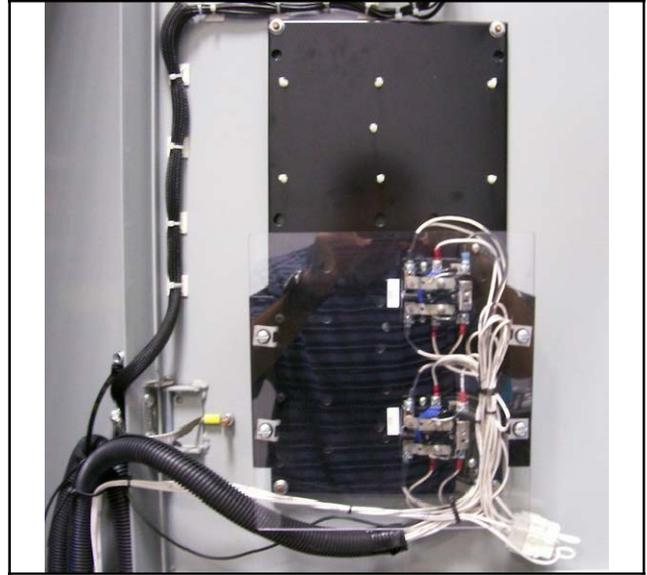

Figure 51 Re-Install Plastic Cover
43. Re-install the upper plastic cover, and finish routing the conversion kit wire harness neatly using the cable ties provided. See Figure 51.